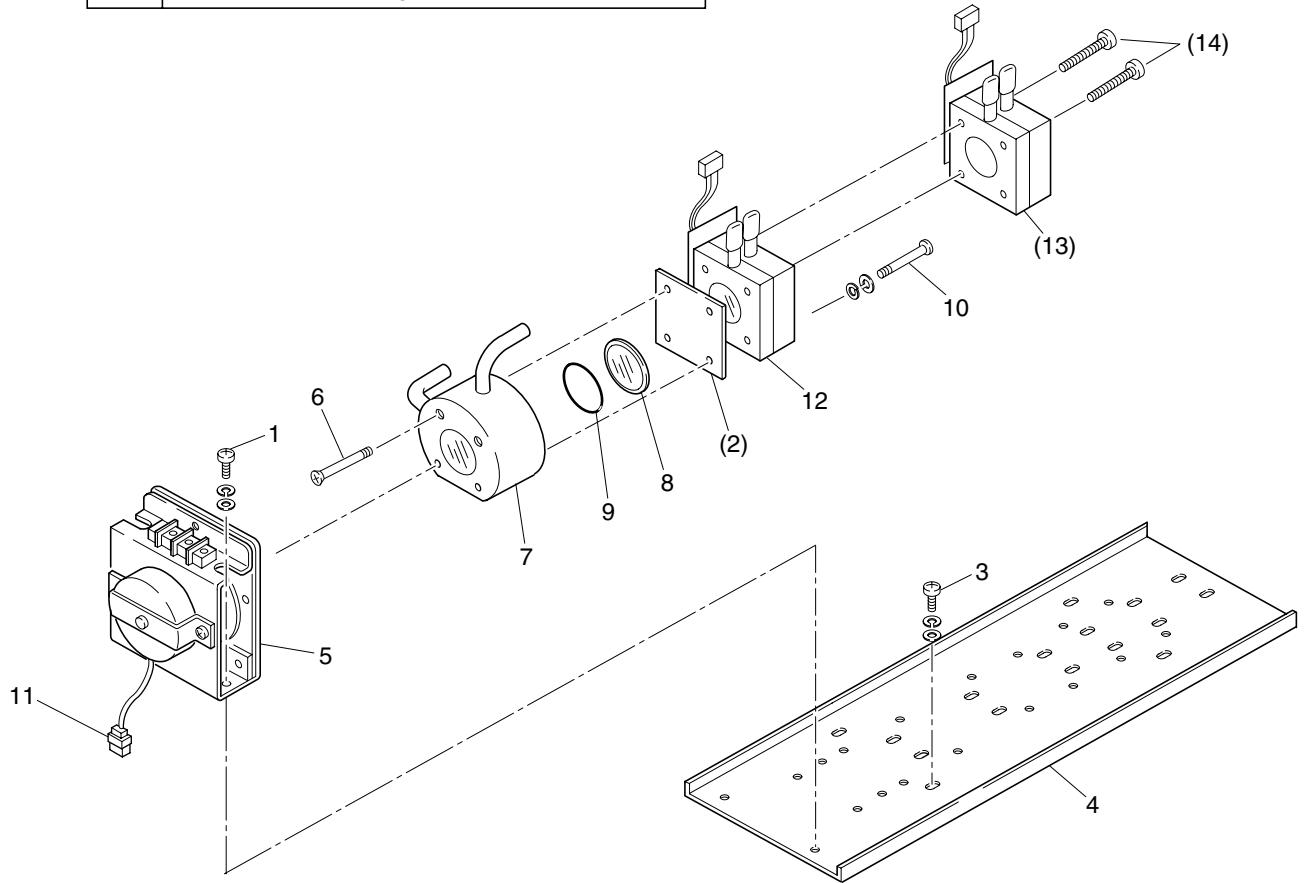

Fig. 7-2 Configuration of measuring unit (block cell)
## (2) How to remove block cell (See Fig. 7-2)